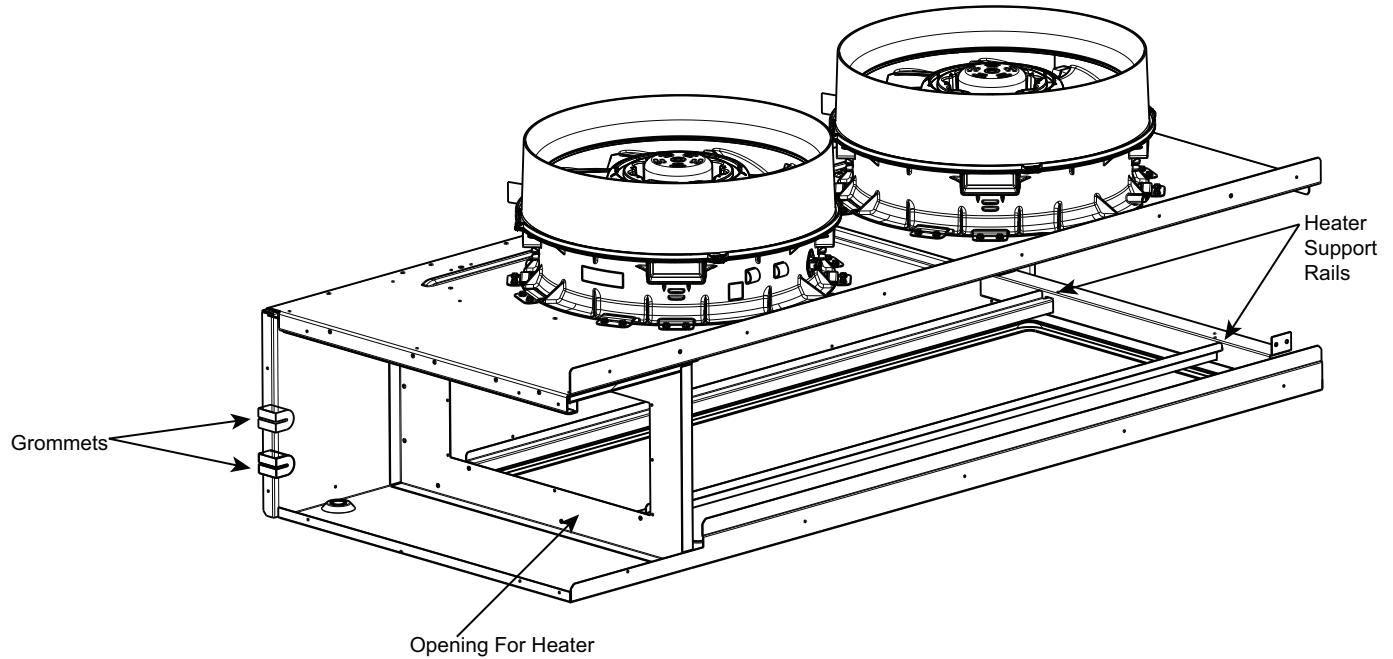

Fig. 49 — Opening for Electric Heater
4. Insert heater assembly through opening where block-off plate was previously removed. Let back end of heaters slide along support rails beneath fan deck. (See Fig. 49.)
6. Route heater power wires through grommeted notches in vertical fan deck support. (See Fig. 49.) Continue routing wires under coil and filter support through the bottom notched section of the control box. Avoid sheet metal edges and any protruding screws.